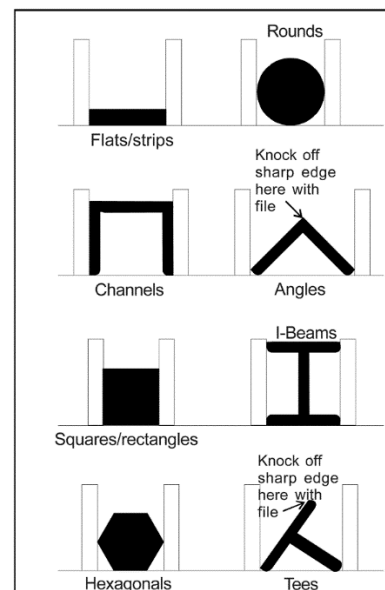

Figure 7-6
1. Place workpiece between vise jaws with required amount to be cut-off extending out past blade. (Figure 7-6 shows recommended positioning of various workpiece shapes within the vise.)